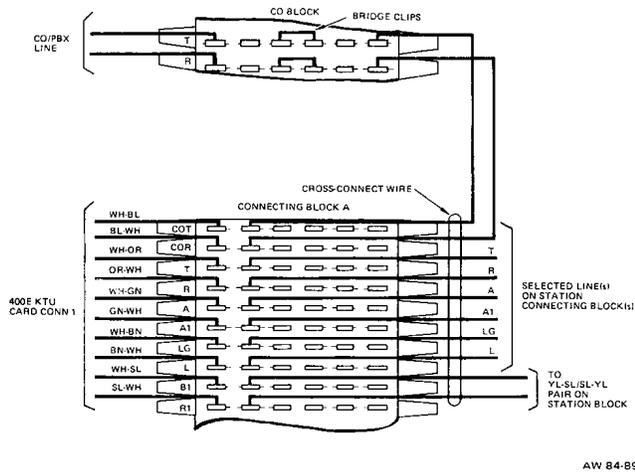

Figure 7: Connecting Details, Line KTU to Multibutton Station
3.15 On connecting block A, B, or C, locate the terminals associated with the card connector into which the line KTU was inserted. Referring to Figure 7, cross-connect the terminals as follows: